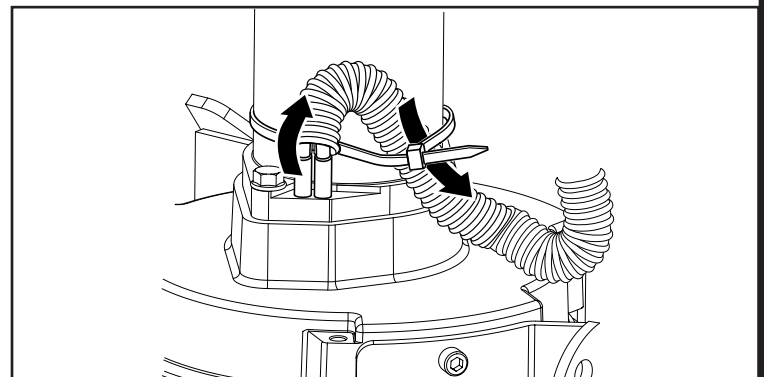

Figure 10
10. Insert motor wiring into conduit and install cable tie around motor in location shown in Figure 10.